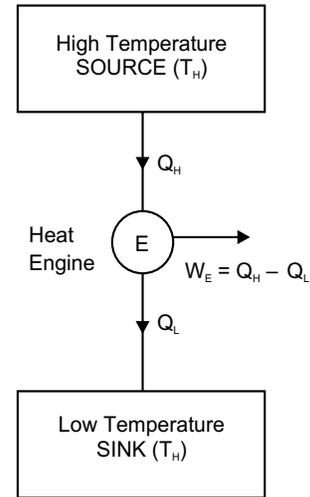
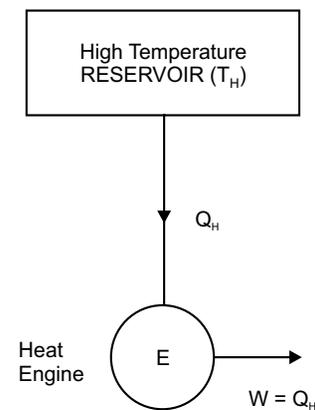

Fig. 5.1
Fig. 5.3
- (d) **Heat Engine:** A heat engine is a thermodynamic system operating in a cycle to which net positive amount of heat is added, and from which net positive amount of work is obtained. The heat engine operated in a cycle is known a heat engine cycle. A schematic diagram of heat engine is shown in figure 5.1. Thus for the satisfactory operation of a heat engine there should be at least two reservoirs of heat, one at a higher temperature and the other at a lower temperature, as shown in figure 5.1. Heat energy  $Q_H$  is received from the high temperature reservoir (source) at temperature  $T_H$  and is supplied to the engine. A part of this heat energy  $Q_L$  is rejected to the low temperature reservoir(sink) at temperature  $T_L$ . Then, the remaining heat energy *i.e.*,  $(Q_H - Q_L)$  is converted into mechanical work ( $W$ ). The ratio of the maximum mechanical work obtained to the total heat supplied to the engine is known as maximum thermal efficiency ( $\eta_{\max}$ ) of the engine.
device (heat engine) which operates in cycle, absorbing energy as heat from a single thermal reservoir and delivering an equivalent amount of work. A schematic diagram of a perpetual motion machine of the second kind is shown in figure 5.3. The Kelvin-Planck statement of the second law of thermodynamics never supports possibility of devising a PMMSK. So, PMMSK violates the second law of thermodynamics. But the PMMSK does not violate the first law of thermodynamics, because, the first law of thermodynamics does not put any restriction as to the fraction of heat drawn from a heat reservoir that can be converted to work. 100% efficient heat engine does not violate the first of thermodynamics.
- (b) **Actual Heat Engine:** The statement implies that a heat engine  $E$  of the type shown in figure 5.3 which will receive heat ( $Q_H$ ) from a high temperature ( $T_H$ ) reservoir, and convert it completely into work, is impossible. The only alternative is that there must be at least one other low temperature ( $T_L$ ) reservoir to which heat  $Q_L$  must be rejected by the engine, because the second law of thermodynamics expresses the fact that the heat engine must reject heat to the low temperature reservoir while drawing heat from the higher temperature reservoir and this also implies that two heat reservoirs are an essential minimum for a heat engine. Accordingly, we obtain a schematic representation of a heat engine as shown in figure 5.1. All heat engines must conform to this representation.